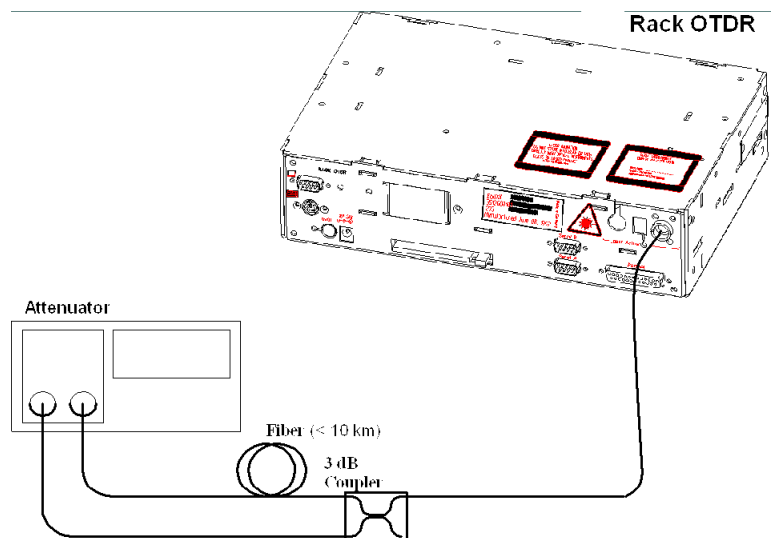

Figure D-4
- 1 Make sure that all optical connectors are clean and connect the equipment as shown in Figure D-4.
- 1 Connect the equipment as for the event deadzone test (see Figure D-4).